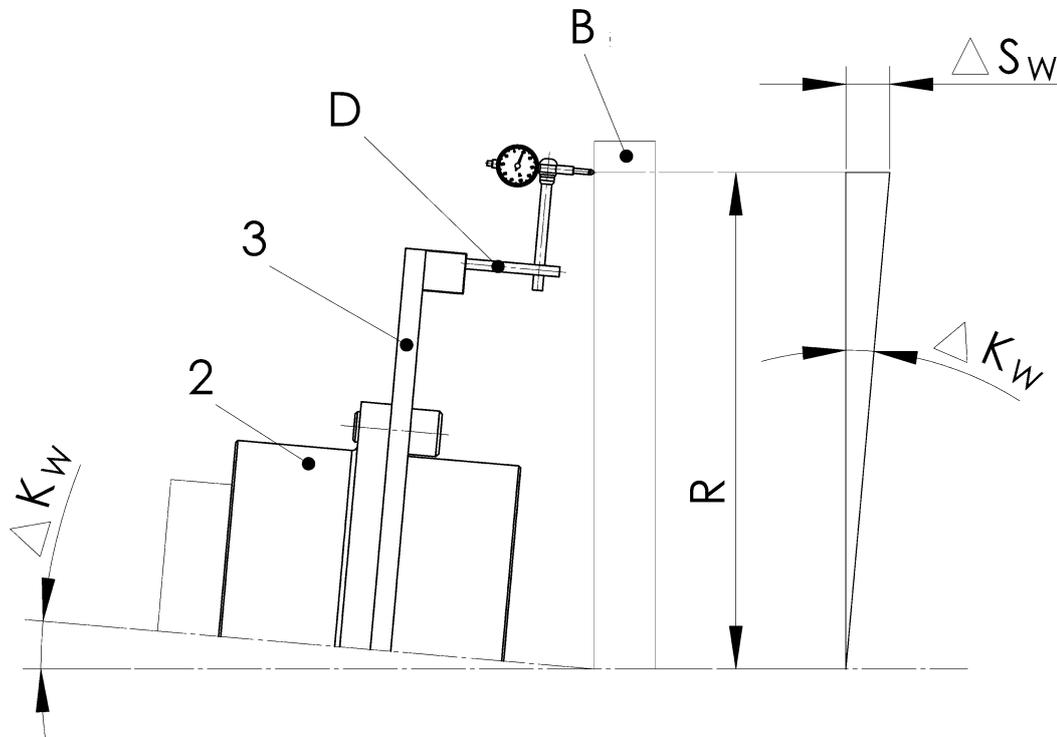

Fig. 5-3 Angular misalignment
- Measure the angular misalignment with a dial gauge (see Fig. 5-3).
- Attach the dial gauge to the adapter (3).
- Position the sensor of the dial gauge (D) radially against the flat surface of the flywheel (B) at a distance R.
- Turn the adapter (3) with dial gauge (D) and the flywheel (B) slowly by 360°.